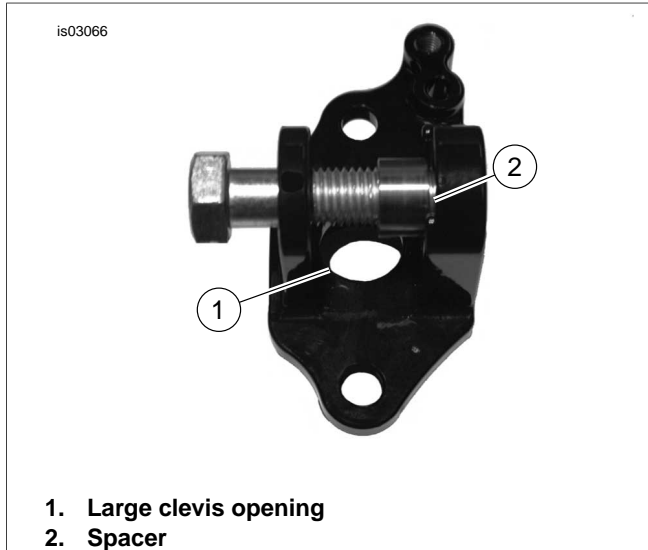
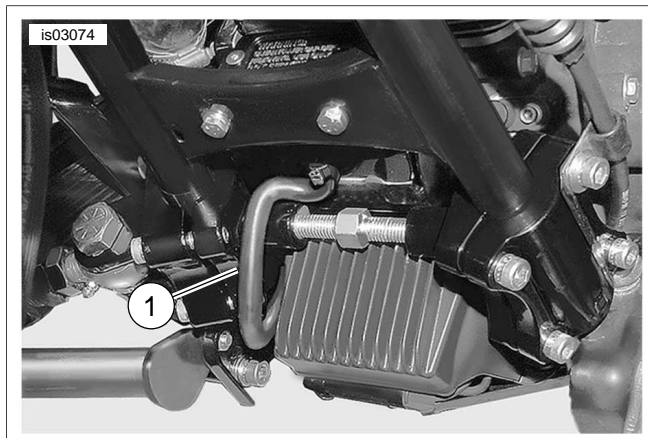
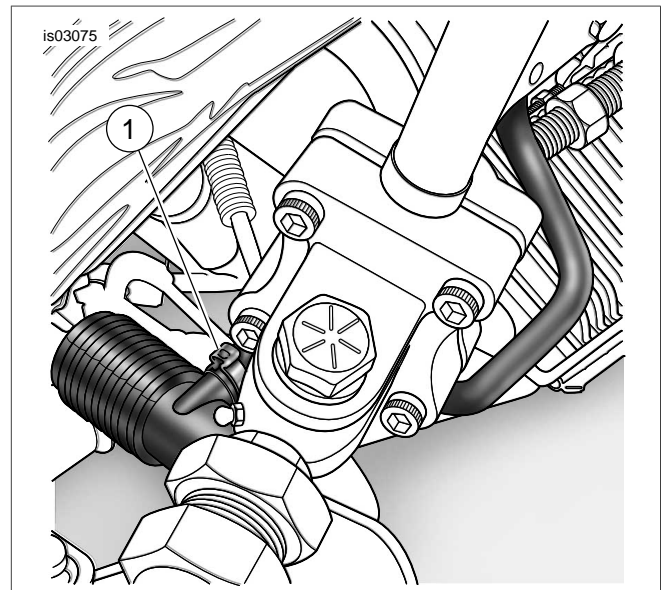
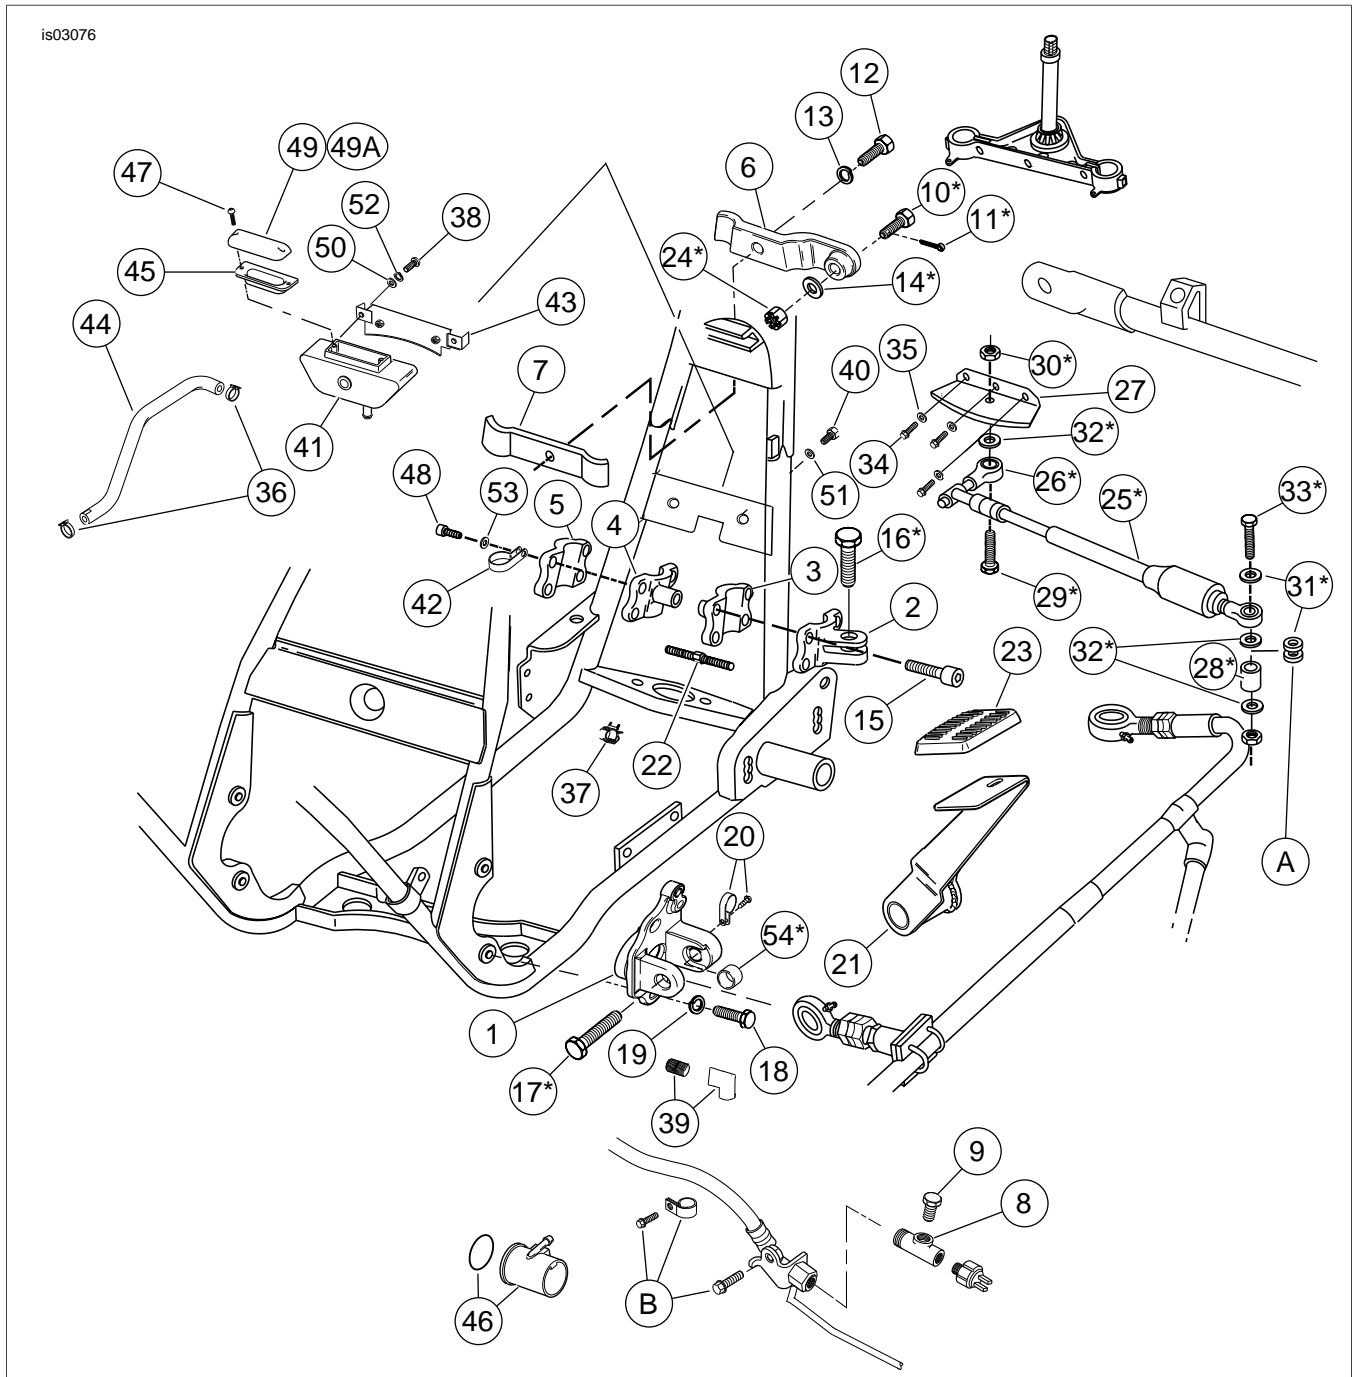

Figure 11. Rear Mount
Figure 18. Routing Brake Reservoir Hose
Figure 19. Brake Reservoir Hose at Master Cylinder
Figure 20. Service Parts: TLE Sidecar Installation Kits
1. See Figure 20. Obtain the stabilizer adjuster (22), left stabilizer (4) and right stabilizer (3). Thread the stabilizer adjuster into the right and left stabilizers. The stabilizers are marked with an "R" and "L" to indicate right and left respectively. The right stabilizer has right hand threads - the left stabilizer, left hand threads.
3. See Figure 20. Obtain the lower front mount (2) and four bolts (15) from kit. Position the lower front mount on the right frame downtube opposite the right stabilizer and insert four bolts thru mount and stabilizer. Finger tighten bolts.
4. See Figures 20 and Figure 10. Obtain the backing plate, four bolts (48), flatwasher (53) and clutch cable clamp (42) from kit. Install backing plate using four bolts however use fourth bolt in upper right hand side with clamp and secure clutch cable in place as shown. Tighten bolts finger tight.
See Figure 11. The rear mount requires only two bolts for installation. The clevis opening for installing the connector rod end (bearing) from sidecar frame has been made wider to allow access to the swingarm pivot shaft nut without removing the mount. Therefore, a spacer (See Figure 20, item #54) is used with the connector rod end (bearing) when connecting the sidecar frame pivot mount to the rear mount.
2. See Figure 20. Loosen and remove the screw with P-clamp (20) attaching rear brake line to right passenger footrest bracket. Retain screw and P-clamp to attach brake line to rear mount. Remove the bolt and lockwasher securing the right passenger footrest bracket and remove the bracket with footrest.
4. Remove the two bolts (w/lockwashers) to free the right rear swingarm bracket from frame and remove bracket. Save swingarm bracket for future installation and save bolts and lockwashers for installation of rear mount. See Figure 20. 12 and 13. Position the rear mount (1) over the two mounting holes and be certain roll pin enters the alignment hole shown in Figure 13 for the 2002 or earlier rubber mount. On 2003 and later mounts, the roll pin must enter the rubber mount's groove shown in Figure 13.
1. See Figure 20. Obtain the steering damper bracket (27), three screws (34) and three washers (35) from kit. Using the Illustration as a guide, install the steering damper bracket to lower triple clamp. Tighten the screws to 96-120 in-lbs (10.8-13.6 Nm).
2. See Figure 20. Obtain new brake line ee-fitting (8) from kit. Coat male threads of fitting with Loctite Pipe Sealant with Teflon (Harley-Davidson part number 99818-97). Thread tee into frame bracket fitting and tighten so that right angle opening is vertical (facing upward).
4. See Figure 20. Obtain plug (9) from kit and save. If sidecar is not being attached, install plug in the right angle opening. A union and plug is provided with the sidecar to plug the sidecar brake line.
2. See Figure 20. Obtain large clip (37) from kit. Capture stator wires and clutch cable in larger clip and install clip on T-stud.
2. See Figures 20 and 17. Obtain hose (44) and two hose clamps (36) from kit. See Figure 18. Route hose from master cylinder reservoir over stabilizer then back down under lower right front mount. See Figure 19 for routing at master cylinder.
3. Install hose clamps as shown in Figures 18 and 19.
See Figure 20. Highlighted hardware, Items 10, 11, 14, 16, 17, 24, 25, 26, 28, 29, 30, 31, 32, 33 and 54 are used for attaching the sidecar to the motorcycle. See Sidecar Service Manual for installation procedures regarding the highlighted items.
Fasten the footboard to the rear mount assembly (Figure 20, item 1) using the footboard attaching hardware. Adjust footboard to suit the passenger and install and tighten bolt to 15-18 ft-lbs (20.3-24.4 Nm).
The contents of this kit are listed as item numbers 26 through 35 on Figure 20. To install the steering damper bracket, follow the procedure "Attaching Steering Damper Bracket" above. Installation of the remaining parts and adjustment is covered in the Sidecar Service Manual.